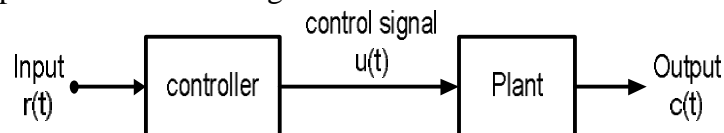

Fig.1 An open-loop system
- It is a control system where its control action only depends on input signal and does not depend on its output response as shown in Fig.1